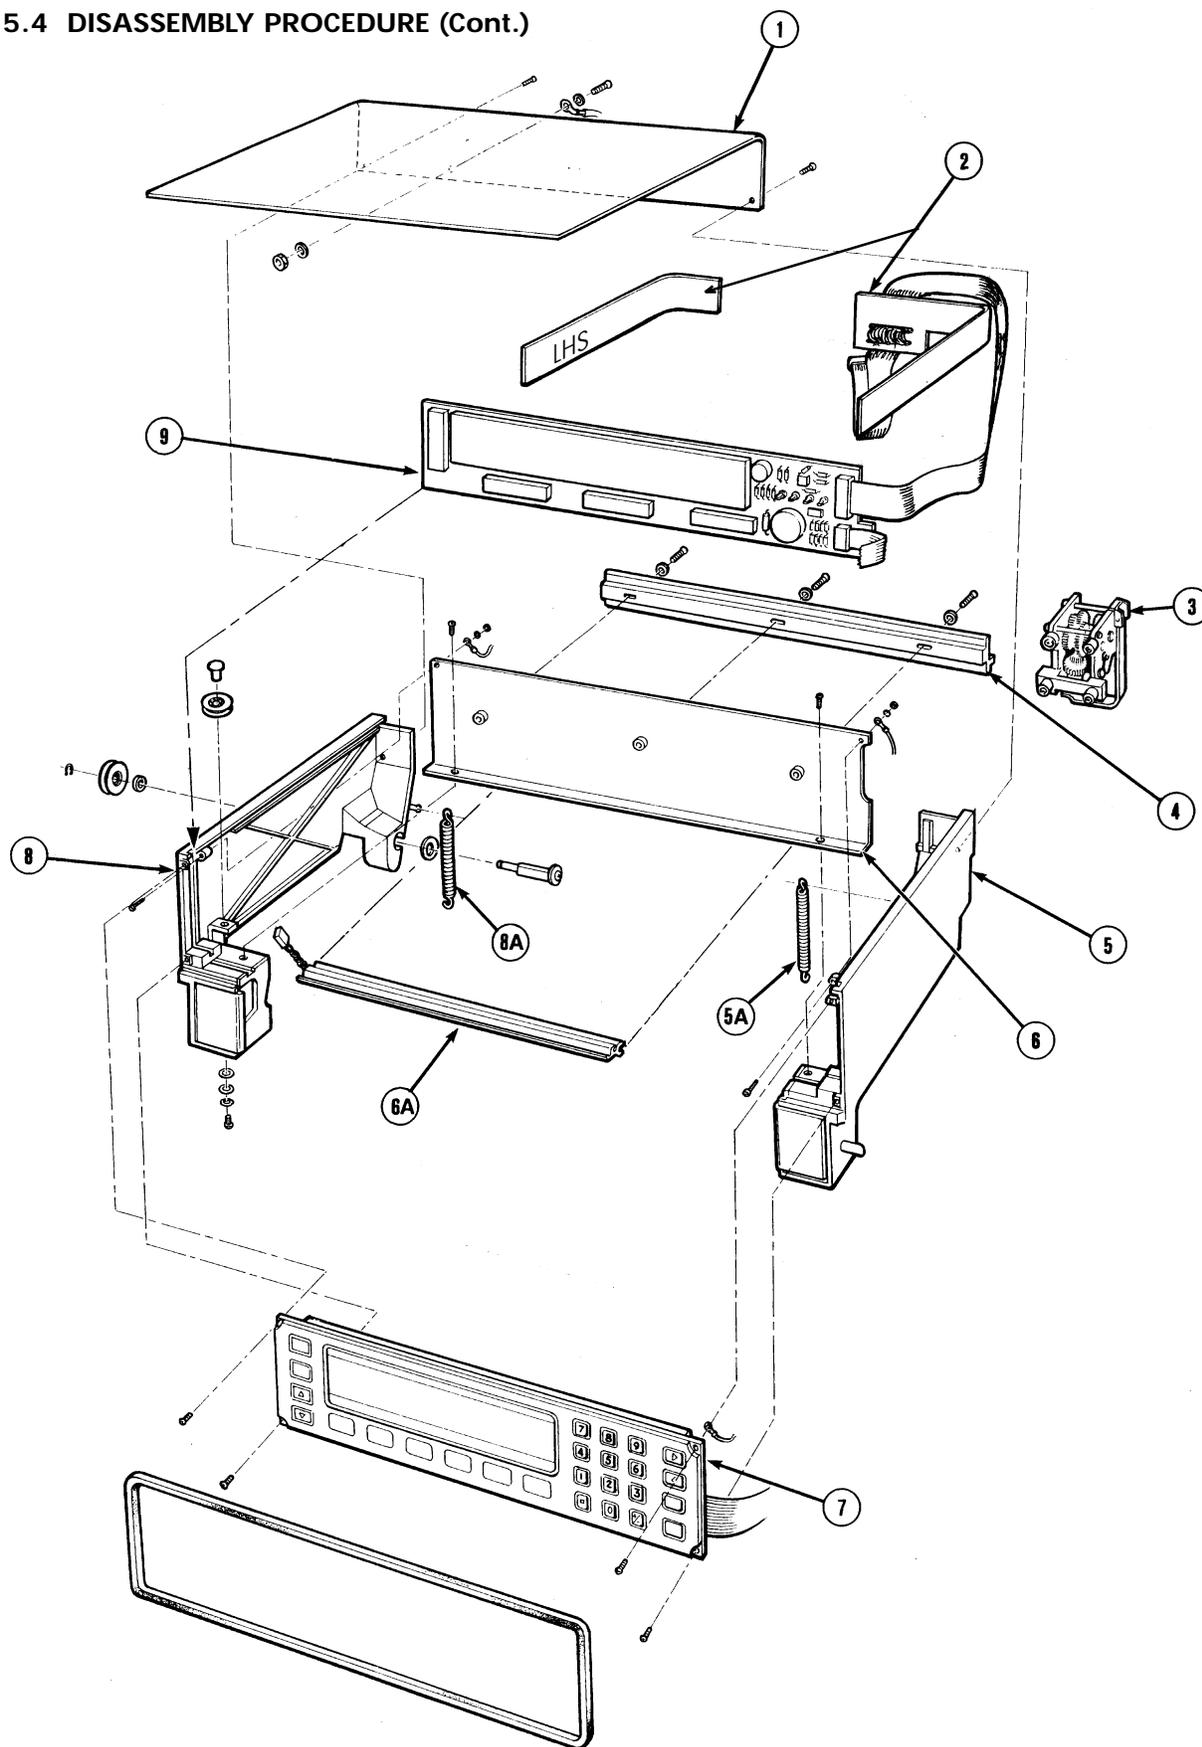

Figure 5.15.4 Display system exploded view
1. The numbers in parenthesis refer to the numbered items in figure 5.15.4.